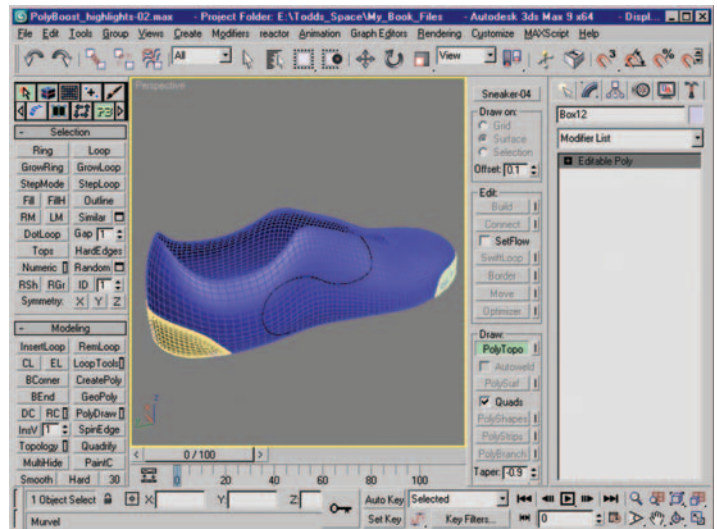

Figure 12.36 PolyTopo is active; line is drawn onto the sneaker surface (seen in black).
4. Left-click and draw a line onto the sneaker base mesh in the shape of the desired stripe or logo. Figure 12.36 shows the line drawn on the mesh.